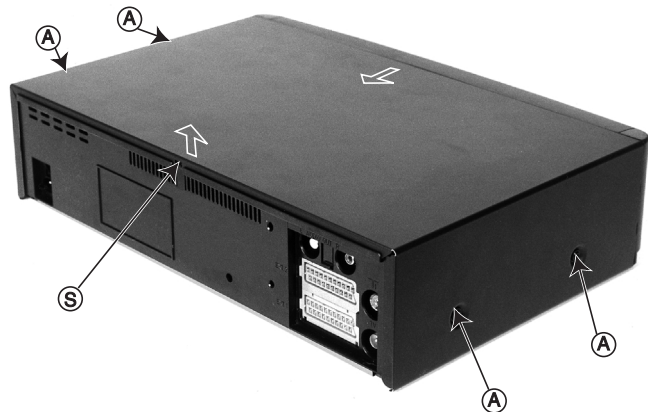

Figure 4-1
1. Housing cover (Figure 4-1)
- Remove the four screws (A).
- Push catch (S) inwards, lifting lid at the same time to move out of groove.